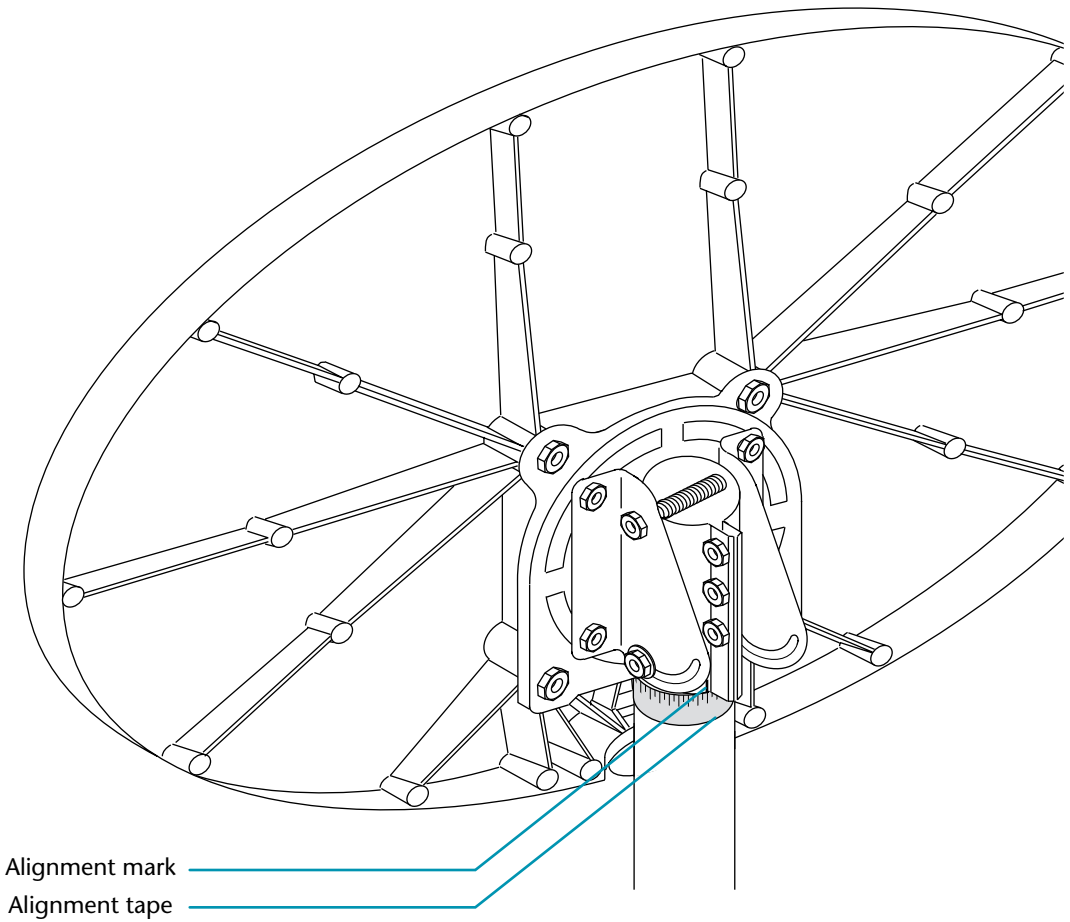
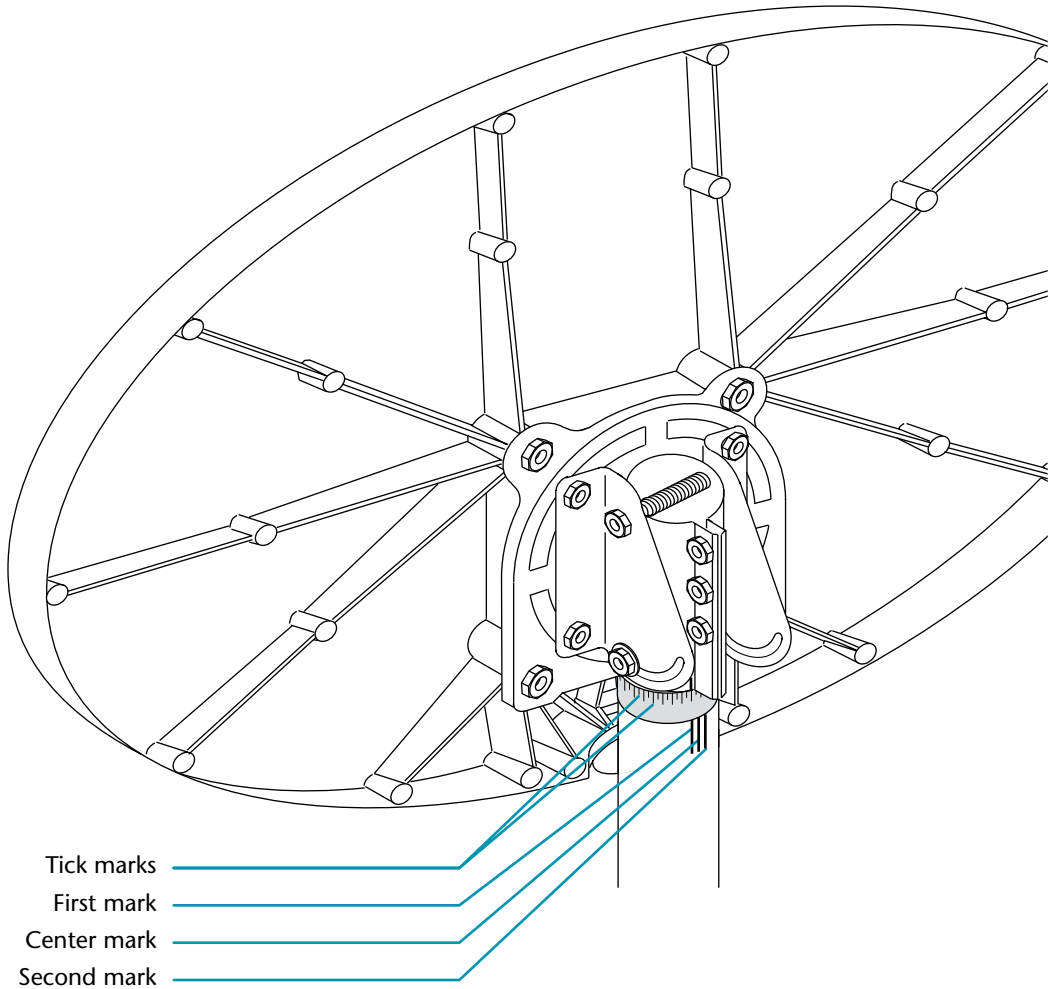

Figure 5-5. Alignment mark and alignment tape locations
Figure 5-6. Marking the azimuth locations on the mast
3. Rotate the antenna in azimuth until the antenna is pointed at the calculated magnetic azimuth bearing (in our example, this value would be 220 degrees). Use a pencil to mark the location of alignment mark (see figure 5-5) onto the mast. This mark will be referred to as the *center mark* (see figure 5-6).
1. To begin the antenna alignment procedure, stand behind the antenna reflector, grasp the outer edges of the reflector (do not lean on the reflector as that would affect the alignment). Place a mark on the mast that is two tick marks to the left of the center mark. That mark is the *first mark* (see figure 5-6). Then place another mark that is two tick marks to the right of the center mark. That mark is the *second mark*.